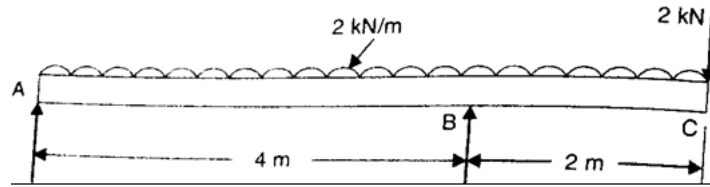

Figure 3
4. Draw the shear force and bending moment diagrams for the overhanging beam carrying uniformly distributed load of 2 kN/m over the entire length and a point load of 2 kN as shown in Figure 3. Locate the point of contraflexure. [14M]